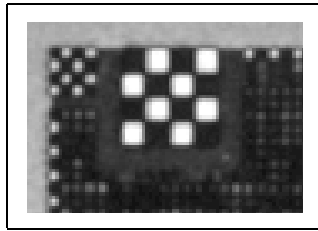

Figure 7.10
- The checkerboard pattern at each corner (Figure 7.10) and throughout the array